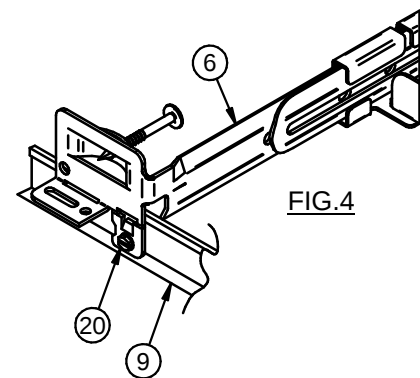
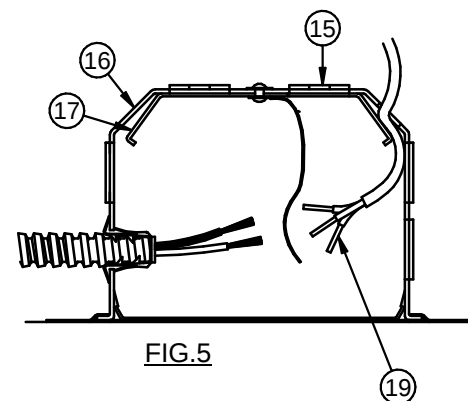

FIG. 4
FIG. 5
- For Suspended Ceilings: Place the Fixture on the ceiling grid with the "T" Bars (9) running through the Bar Hanger Notches (10). Using a flat head screwdriver or other tool, bend the integral t-bar mounting tabs (11) downward to a vertical position (Fig. 4). Secure housing to the support structure with tie wire (supplied by others) in the holes supplied. Sheetmetal screws (supplied by others) can also be used in the holes supplied (20).
- Locate Housing (3) along Bar Hanger in desired position and, using pliers, squeeze the 4 Locking Tabs (12) on the Plaster Frame (13) tightly over the Bar Hangers to prevent further Housing movement.
- As desired, hanger bars (6) may be shortened at score mark to fit tight mounting conditions and joist alignment tabs removed to adjust vertically as needed by breaking off with pliers.
- Unsnap Junction Box Cover (14) by lifting the Leaf Spring (24).
- Run supply wires through UL Listed connectors (not supplied) in one of the five Pryouts (15) on the Junction Box (16) or Type NM cable (ROMEX) through an Opening above the Wire Retaining Plate (17). Connect Supply Wires (19) as shown in Fig 5 & 7. Replace Cover.
6. Ouvrir le couvercle de la boîte de jonction (14) soulevant le ressort à lames.
7. Faites passer les câbles d'alimentation à travers les connecteurs homologués UL (non inclus) dans une des cinq pièces amovibles (15) sur la boîte de jonction (16) ou faites passer un câble du genre NM (ROMEX) par l'ouverture au-dessus de la plaque de blocage à câbles (17). Relier les câbles d'alimentation (19) selon les Figures 4 et 5. Replacer le couvercle.